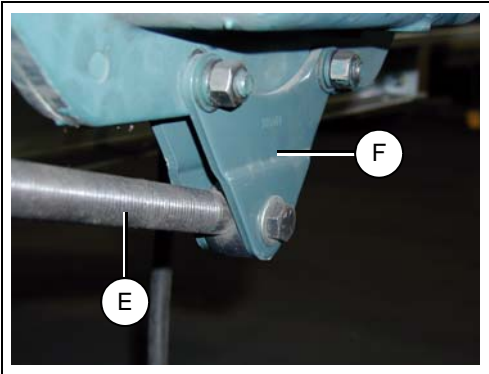

Figure 5E
- 6. Install the torque arm between the two (2) plates that are located on the bottom of the reducer drive. Secure using bolt with washers and lock nuts. Attach the other end to the torque arm bracket on the conveyor using two bolts, washers and lock nuts. Tighten the torque arm by turning the turnbuckle. Adjust the position of the reducer. The reducer should be in a vertical position as shown on Page 23. (See Figure 5E.)